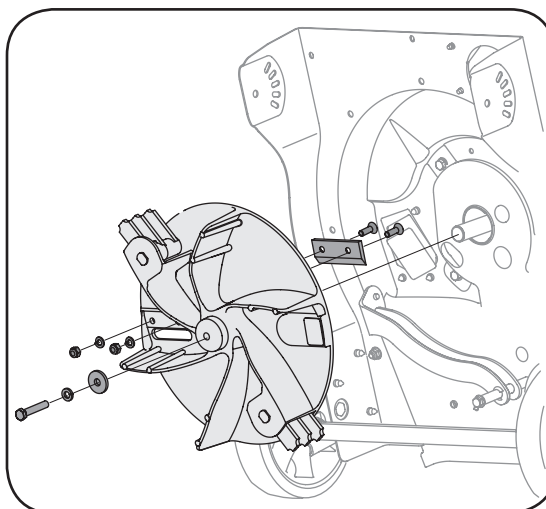

Figure 5-5
7. Remove the hex bolt, lock washer, and flat washer that secure the impeller assembly to the crankshaft. See Figure 5-5.